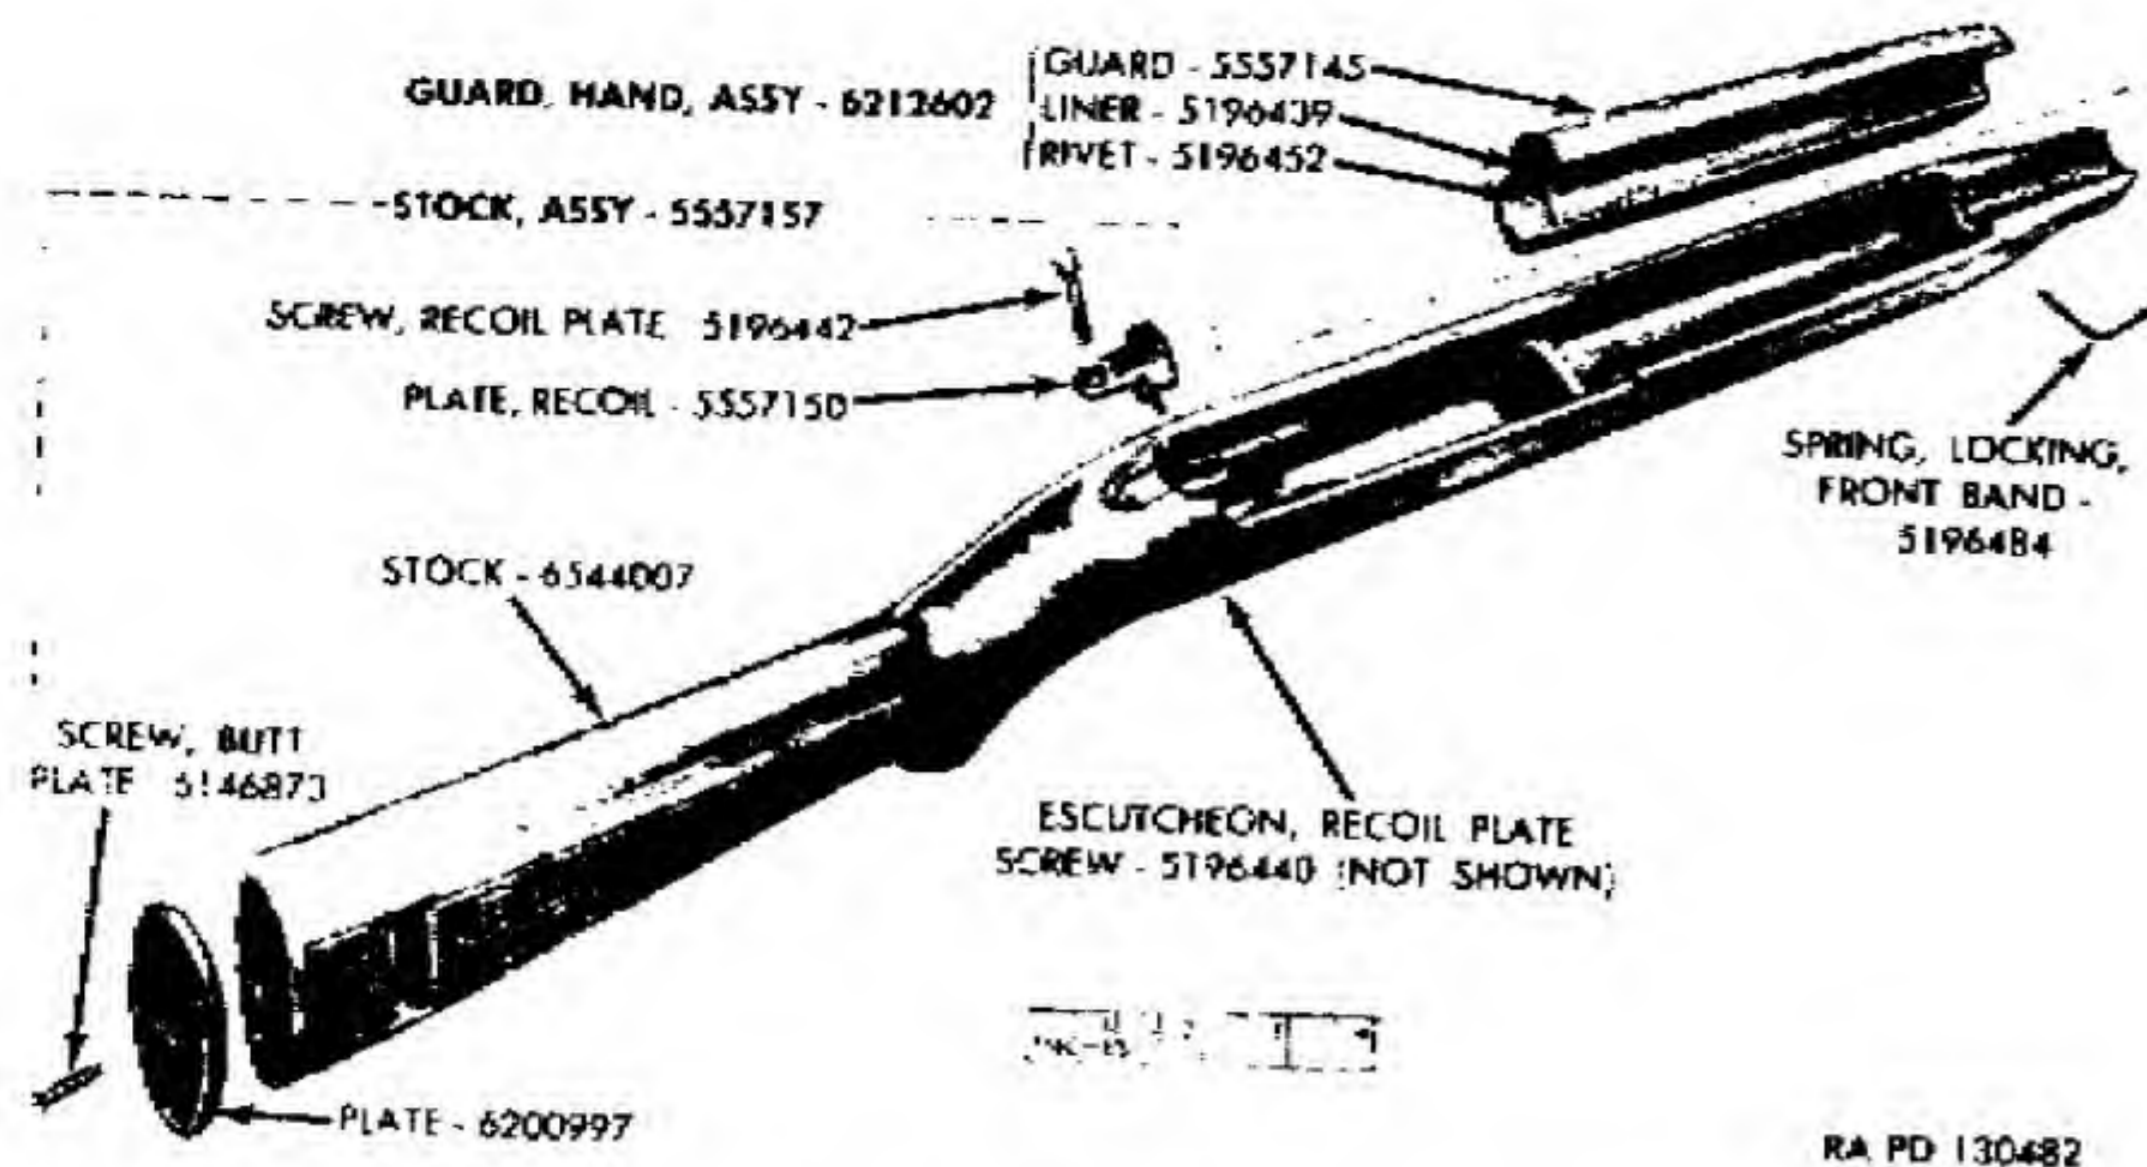

Figure 94. Stock and guard assemblies—carbine M1.
*a. Front Band Locking Spring* (figs. 94 and 95). Insert small, straight punch in spring spindle hole in left side of forward end of stock and drive out front band locking spring part way, from left to right; then rotate spring and pull from hole.
*b. Recoil Plate* (figs. 94 and 95).
- (1) Inscrew recoil plate screw counterclockwise until clear of escutcheon threads (above  $\frac{3}{4}$  inch), then withdraw from stock and recoil plate.
- (2) Loosen recoil plate by tapping lightly on rear top face with a metal tool. Pull plate directly forward out of seating recess in stock. Do not pull up or down, because rear seating lug on plate seats in a horizontal recess cut in the stock.
- (3) Do not remove the recoil plate screw escutcheon from the stock except for replacement. To remove, thread recoil plate screw into the escutcheon from the under side until all of the threads of the escutcheon are engaged and pull escutcheon out of stock. If withdrawal is difficult, insert small straight punch from top of screw hole in stock and tap end of screw lightly to loosen escutcheon, or thread screw in from top, part way, and tap lightly; then proceed as above.
*c. Butt Plate* (figs. 94 and 95). Unscrew butt plate screw counterclockwise and remove from stock. Loosen butt plate by tapping it lightly. Pull to rear off stock. If butt plate is tight, do not pry off, as stock is likely to be damaged. Tap on edges lightly all the way around, until loose enough to pull from stock.
*d. Hand Guard* (figs. 94, 95, and 97). The liner of the hand guard assembly is riveted to the hand guard; do not remove it.
*b. Loose Rivets in Hand Guard Liner.* A loose hand guard liner (figs. 94 and 95) indicates improper spreading of the rivets. These